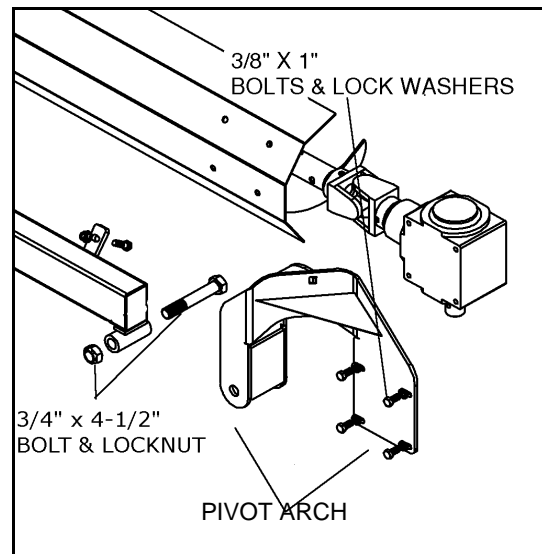

Figure 4.22
2. Bolt the pivot arch to upper gearbox using four 3/8" x 1" bolts with lock washers. Hand tighten only at this time. The bracket holes are slotted for adjustment at the end of installation (Figure 4.22).
12. Place the first section of backboard stiffener behind backboard and secure to pivot arch with 3/4" x 4-1/2" bolt and locknut. Use 1-1/8" wrench or socket to tighten. **Do not overtighten** (see Figure 4.22) so that backboard stiffener can move up or down.